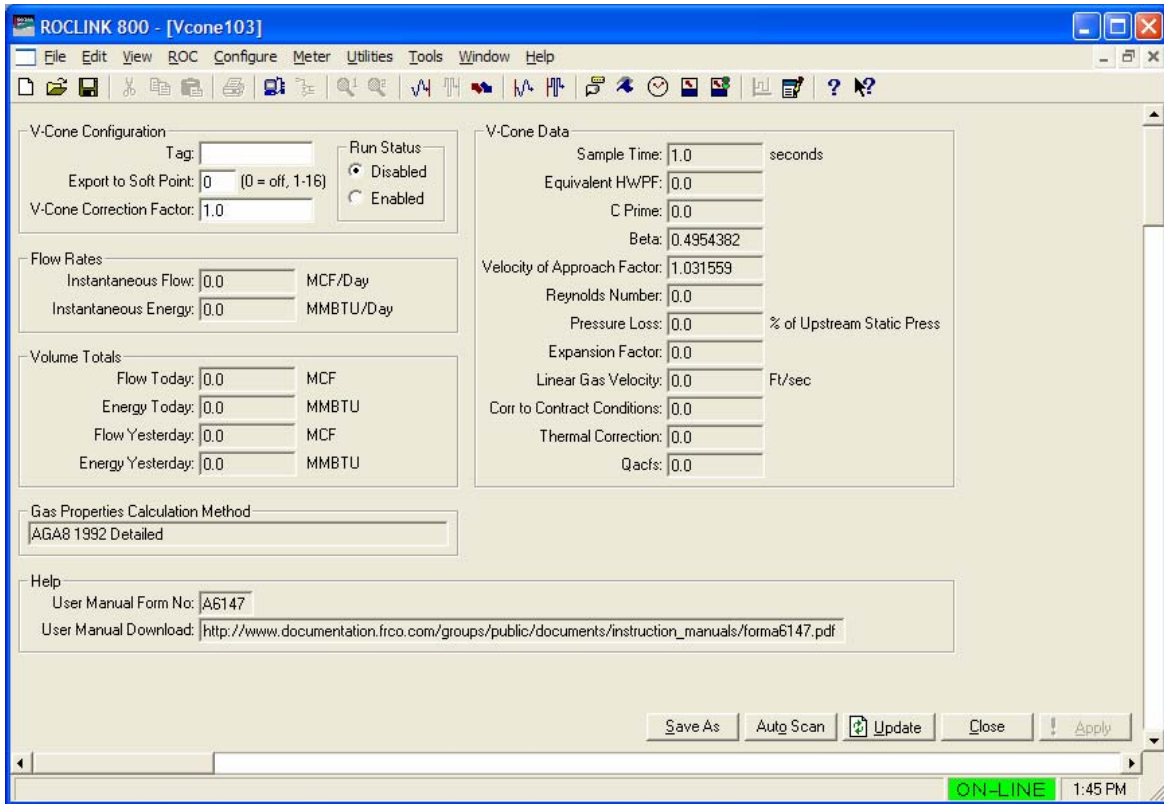

Figure 14. V-Cone Setup
2. The V-Cone Setup screen displays (see Figure 14):